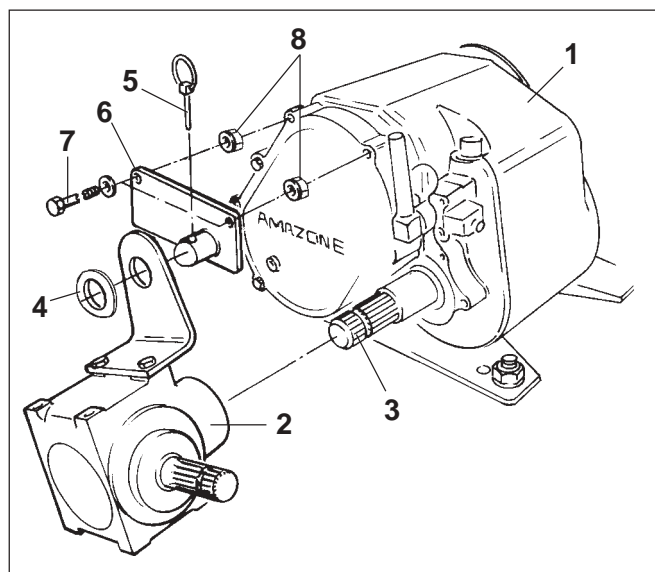
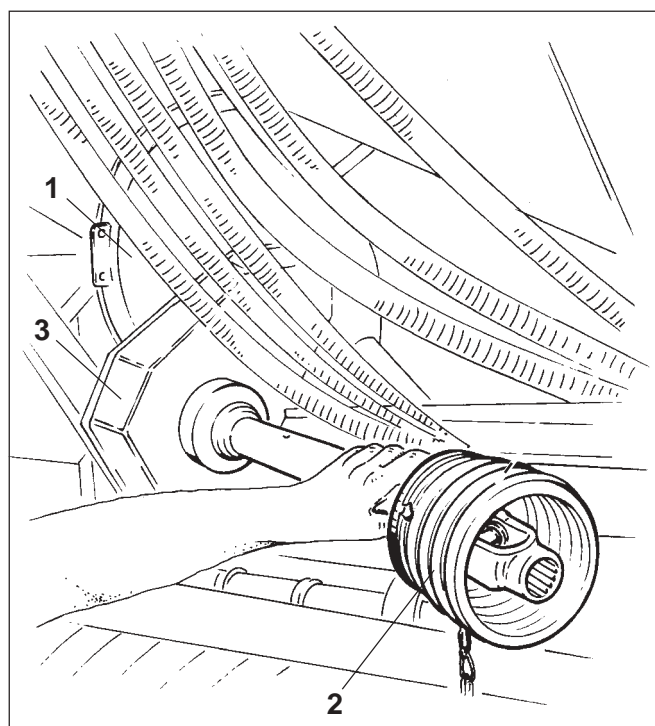

Fig. 11.1
Fig. 11.2
Precondition for a continuous flow of seed is a constant speed of the blower fan. When the AD-P is being operated in combination with an AMAZONE rotary cultivator (KG) or an AMAZONE rotary harrow (KE) with shift main gearbox (Fig. 11.1/1) the blower fan (Fig. 11.2/1) can be driven with a constant pto speed via the shift main gearbox.
Necessary for this is that the shift main gearbox is equipped with an angle gearbox (Fig. 11.1/2). The angle gearbox is plugged onto the rear pto through drive shaft (Fig. 11.1/3) of the gearbox and has to be secured with a washer (Fig. 11.1/4) and a clip pin (Fig. 11.1/5). Before doing this affix the mounting plate (fig. 11.1/6) to the gearbox cover by using longer hex. bolts (fig. 11.1/7). The hex. nuts (Fig. 11.1/8) are used as spacers.
Before you connect the pto shaft (Fig. 11.2/2) to the angle gearbox (Fig. 11.1/2):
The V-belt drive (Fig. 11.2/3) is equipped with a centrifugal force coupling.